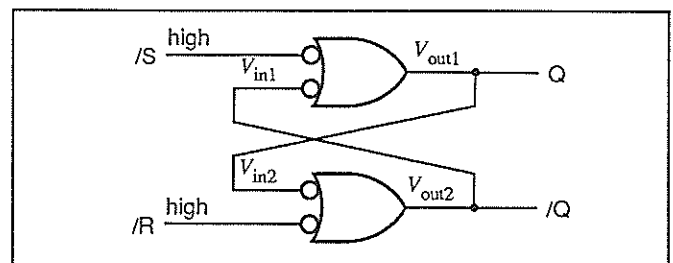
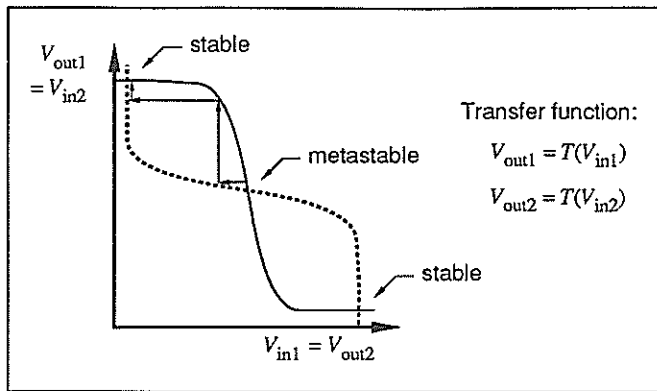

Figure 3. A pair of NAND gates forming an S-R flip-flop.
Figure 4. Transfer functions for NAND gates in S-R flip-flop.
Metastability can be observed and explained by looking at the simple S-R flip-flop shown in Figure 3. As you know, an analysis of this circuit from a strictly digital point of view shows that it has two stable states. However, the circuit has more to reveal if we consider its operation from an analog point of view.
The solid line in Figure 4 shows the steady-state (DC) transfer function  $T$  for a single NAND gate with one of its inputs tied high; the output voltage is a function of input voltage,  $V_{out} = T(V_{in})$ . With two NAND gates connected in a feedback loop as in Figure 3, if /S and /R are tied high we know that  $V_{in1} = V_{out2}$  and  $V_{in2} = V_{out1}$ . Therefore, we can plot the transfer functions for both NAND gates on the same graph with an appropriate labeling of the axes. The solid line is the transfer function for the top NAND gate in Figure 3, and the dotted line is the transfer function for the bottom one.
We can find these equilibrium points graphically from Figure 4; they are the points at which the two transfer curves meet. Surprisingly, we find that there are not two but *three* equilibrium points. Two of them, labeled "stable," correspond to the two states that a "strictly digital" analysis identifies, with Q either 0 or 1. The third equilibrium point, labeled "metastable," has  $V_{out1}$  and  $V_{out2}$  sitting halfway between a valid logic 1 voltage and a valid logic 0 voltage; so Q and  $\bar{Q}$  are not valid logic signals at this point. Yet the loop equations are satisfied; if we can get the flip-flop to operate at the metastable point, it could theoretically stay there indefinitely.
Closer analysis of the situation at the metastable point shows that it is aptly named. It is not truly stable because random noise will tend to drive a circuit which is operating at the metastable point towards one of the stable operating points as we'll now demonstrate. Suppose the S-R flip-flop is operating precisely at the metastable point in Figure 4. Now let's assume that a small amount of circuit noise reduces  $V_{in1}$  by a tiny amount. This tiny change causes  $V_{out1}$  to *increase* by a small amount. But since  $V_{out1}$  produces  $V_{in2}$ , we can follow the first horizontal arrow from near the metastable point to the second transfer characteristic, which now demands a lower voltage for  $V_{out2}$ , which is  $V_{in1}$ . Now we're back where we started, except we have a much larger change in voltage at  $V_{in1}$  than the original noise produced, and the operating point is still changing. This "regenerative" process continues until we reach the stable operating point at the upper left-hand corner of Figure 4. However, if we perform a "noise" analysis for either of the stable operating